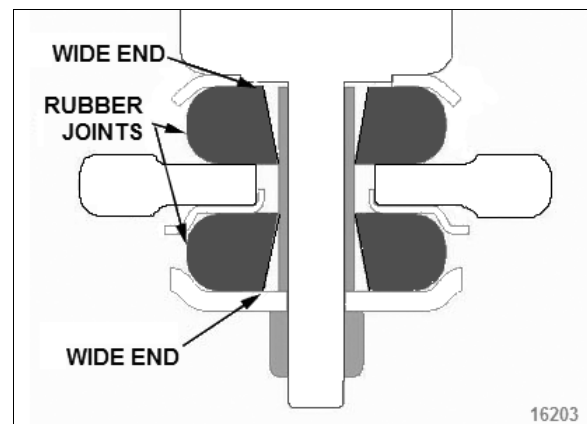

FIGURE 40: LOWER SHOCK MOUNTING BUSHINGS 16203
3. On the lower mounting, take care to install the rubber joints with the wide end of the tapered hole as shown in Figure 40.